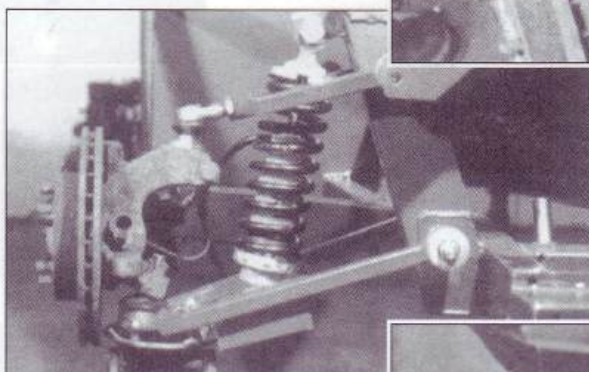

Fig.2o. Drilling the upright with a taper covered in grinding paste.
The taper needs to be 'reversed' by using either a 7 degree taper drill or a 7 degree tapered shaft (fig.2o.) and a small supply of grinding paste (an old track rod end in a drill is ideal).
14. Drill out reversed taper as shown in fig.2o.